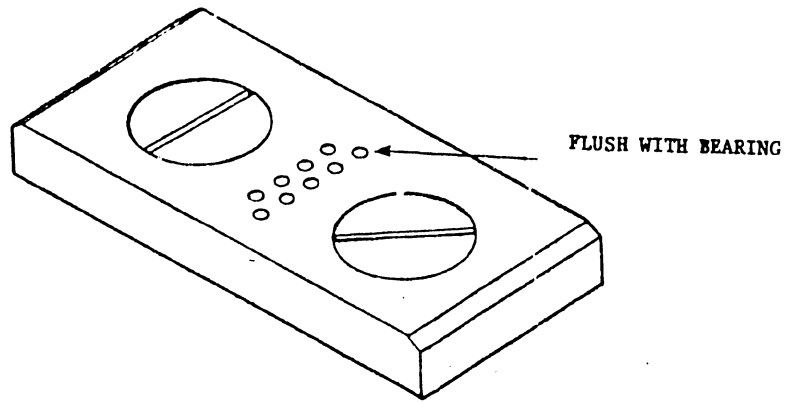

FIGURE 5-8 SOLENOID WIRE ADJUSTMENT
- 3) With a jewelers loupe (magnifier) look at the head bearing (Figure 5-8). All the solenoid wires must be flush with the bearing surface.